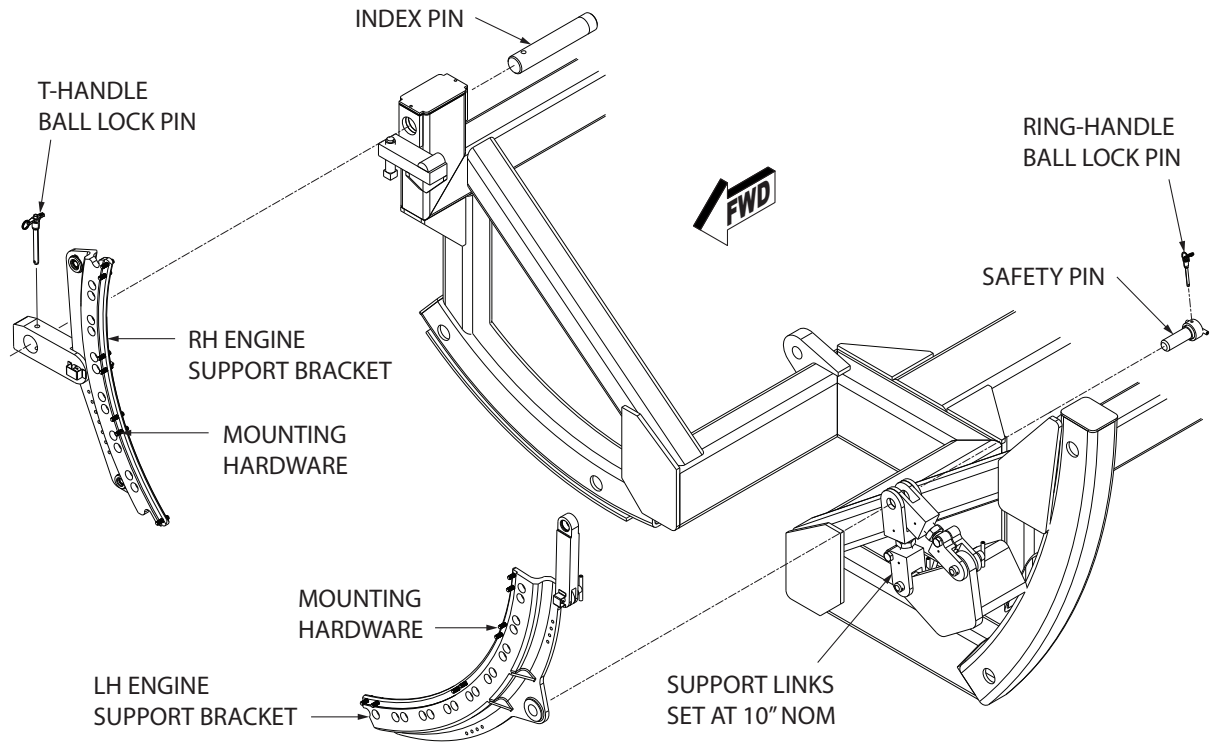

Figure 5.2-3
- 2) Remove the FWD LH and RH engine support brackets (IPB Figure 4 - Items 4 and 6) from the stand by removing the index pin (IPB Figure 3 - Item 5) and the T-handle ball lock pin (IPB Figure 3 - Item 10) for the RH support bracket and the adapter pin (IPB Figure 5 - Item 7), safety pin (IPB Figure 6 - Item 4) and ring-handle ball lock pin (IPB Figure 5 - Item 8) for the LH support bracket. (See Figure 5.2-3).